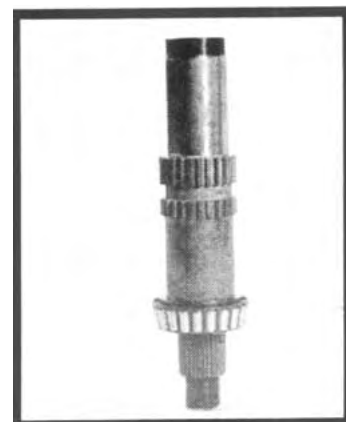

Figure 6.15
1. Heat and install the front bearing cone assembly against the shaft shoulder. After the bearing cools to room temperature, position the shaft as shown in Figure 6.15.